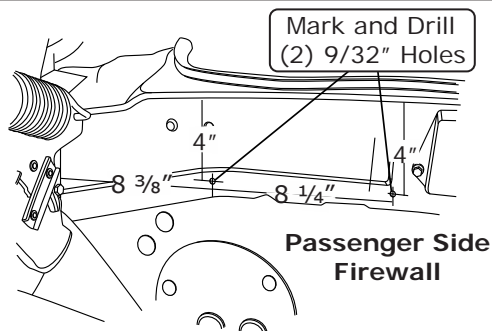

Figure 1a
1. Mark and drill (2) 9/32" holes in the firewall for the evaporator firewall bracket (See Figure 1a, below).